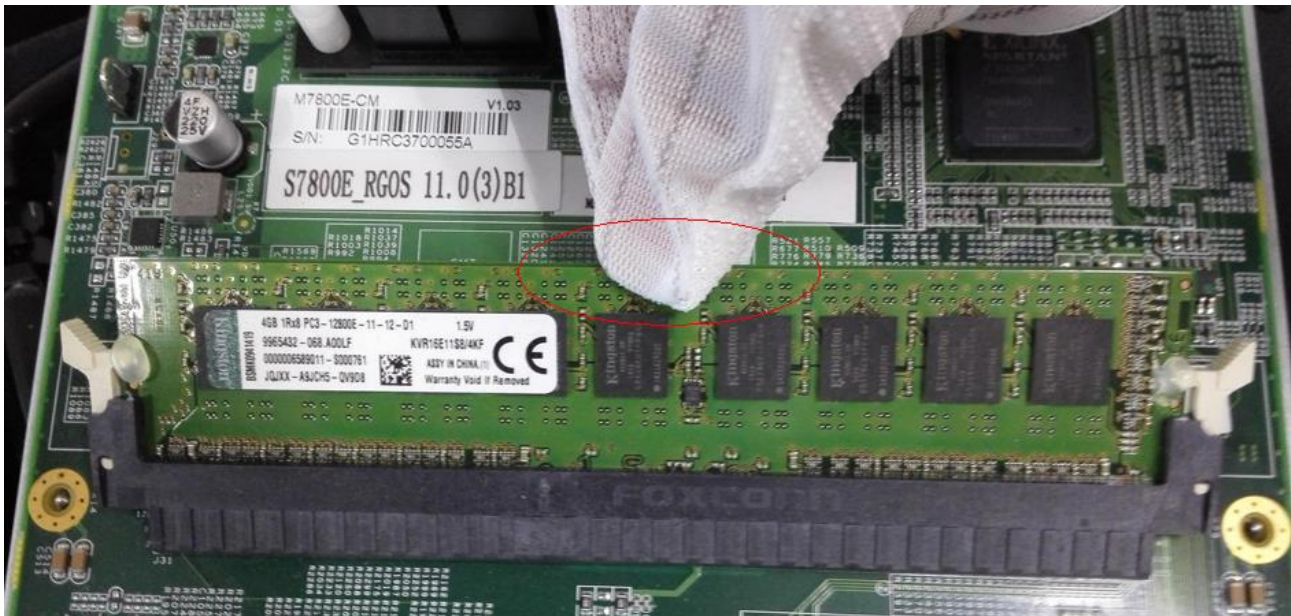
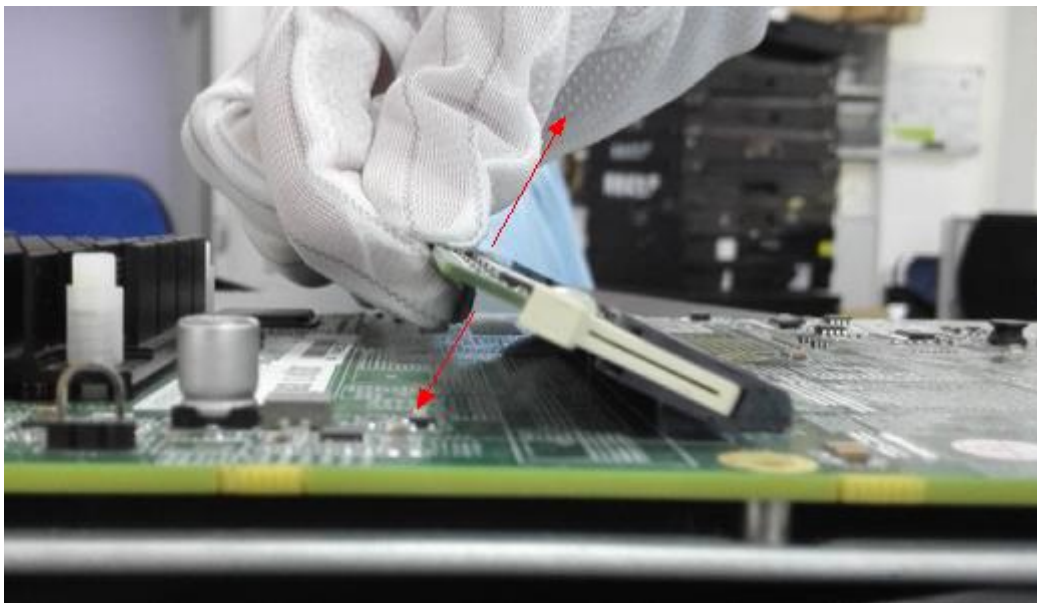

Figure 2
Figure 3
Step 2: After wearing ESD gloves or an ESD wrist strap, hold the edge in the middle of the memory module where no component resides (as shown in Figure 2), shake the memory module top down along the direction vertical to the memory module plane (as shown in Figure 3), with the amplitude smaller than 5 mm, to prevent damage to the memory module and socket.